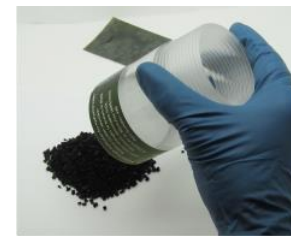

Figure 10
1.6. Empty consumed sorption media (Figure 10) 4
1.6. Empty consumed sorption media (Figure 10)